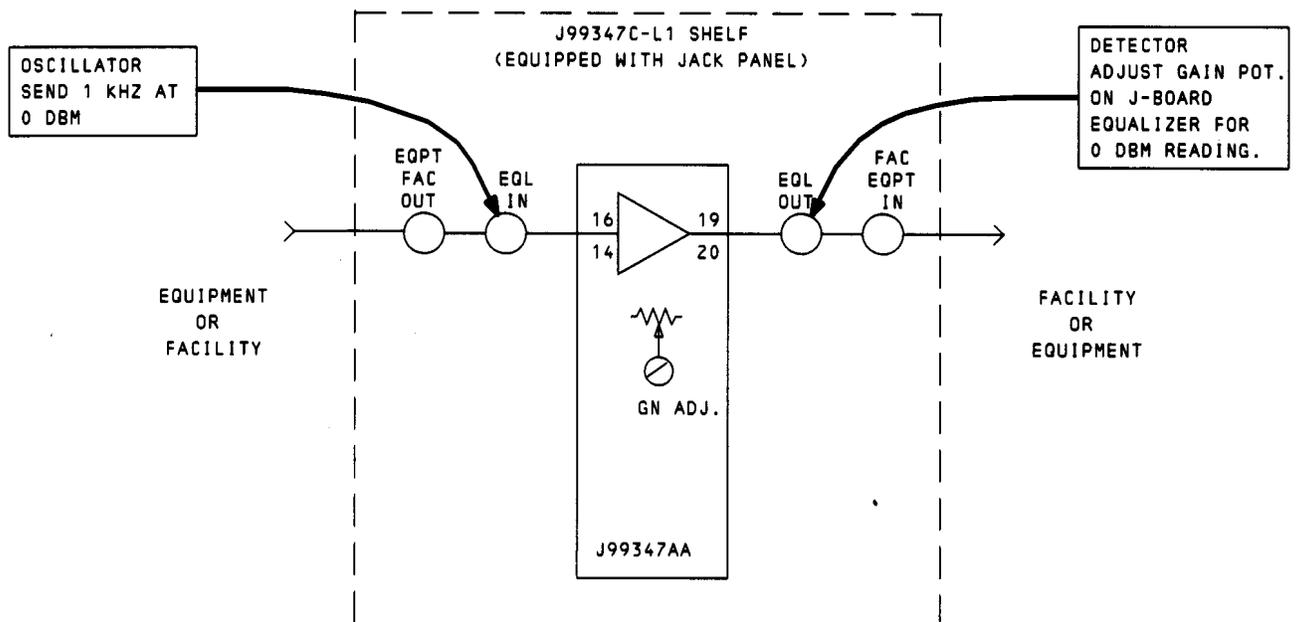

Fig. 3—Gain Adjustment Connections for J99347C Shelf
B. J99347C-L1 Shelf (equipped with jack panel)—Fig. 3